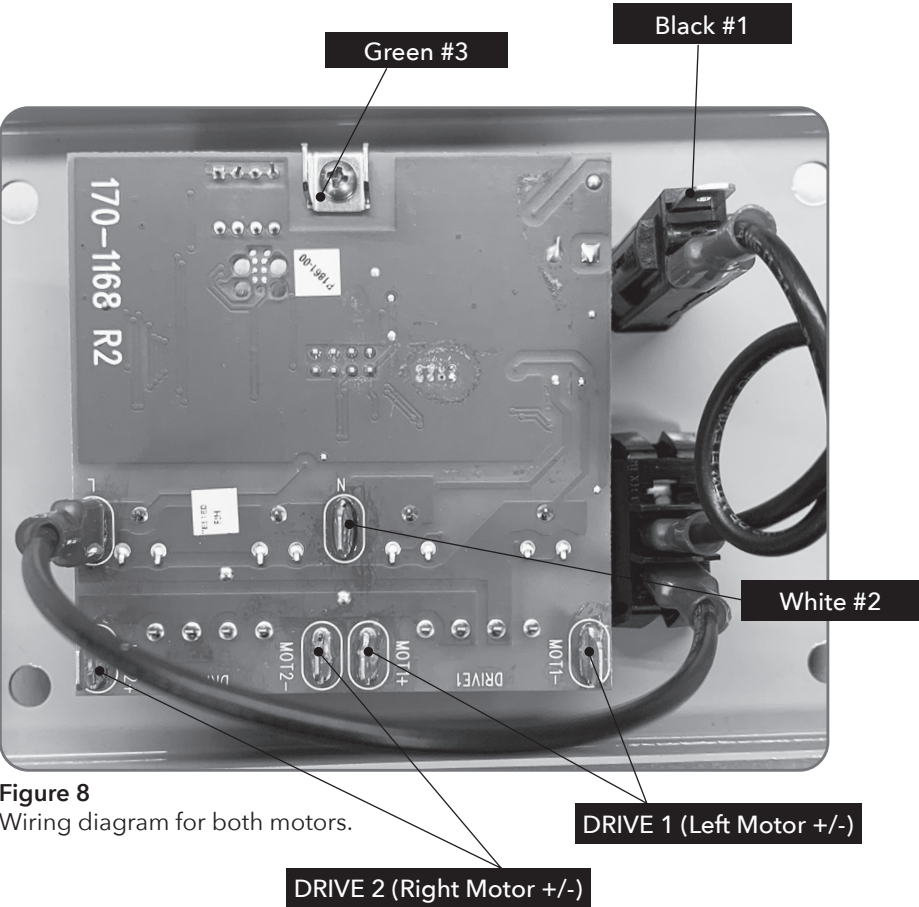

Figure 8
- 3. Remove four screws holding controller faceplate into main casting. Note the position of the main power and motor wires on the controller, then disconnect the wires. (See Figure 8) for the two motor wires and the main power cord wires.